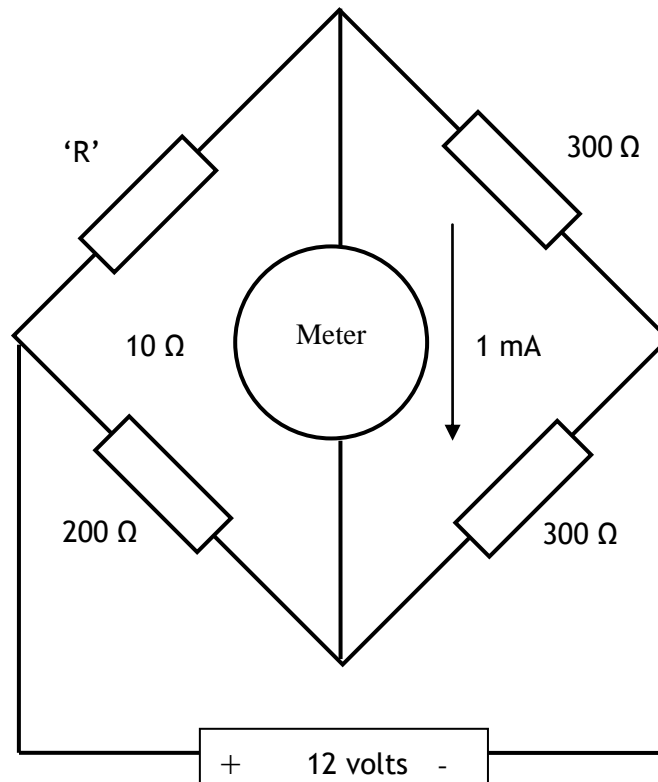

Fig Q1
1. Fig Q1 shows a circuit designed for measuring temperature.